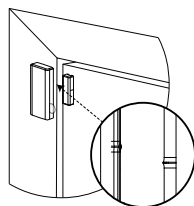

Figure 3: Device and magnet position on door and door frame
- Place the device on the frame of a window or door and place the magnet on the moving surface of the door or window itself, directed according to the location marks. See Figure 3.
- Screw the magnet base on to the door, aligning it with the line on the device. See Figure 3.